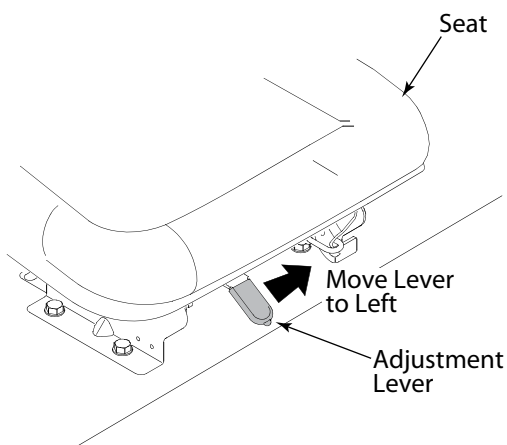

Figure 6-4
- To adjust the position of the seat, move and hold the seat adjustment lever toward the left. Slide the seat forward or rearward to the desired position; then release the adjustment lever. Make sure seat is locked into position before operating the tractor. See Figure 6-4.